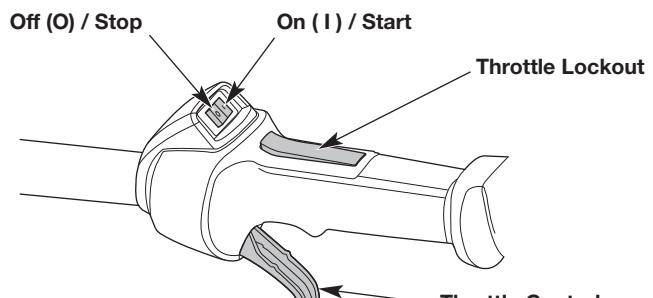

Fig. 6
- NOTE:** There is no need to turn the unit on. The On/Off switch is in the ON (I) position at all times (Fig. 6).
6. Press the throttle lockout and squeeze the throttle control (Fig. 6).
2. Press and hold the On/Off switch in the OFF (O) position until the engine comes to a complete stop (Fig. 6).